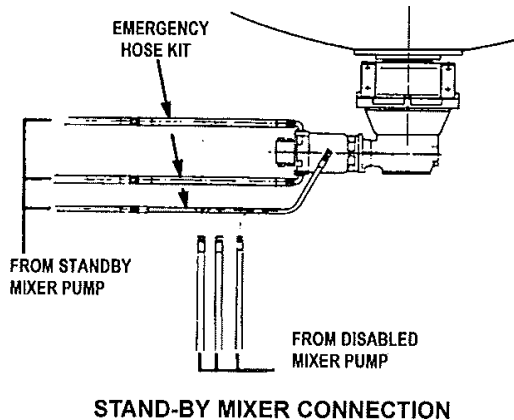

Figure 1
1. Leaving approximately 5 feet of working space between the trucks, position the stand-by unit with its right hand side adjacent to the right hand side of the disabled unit. Locate the mixers so the hydraulic motor hose clusters are opposite to each other. See Figure 1.